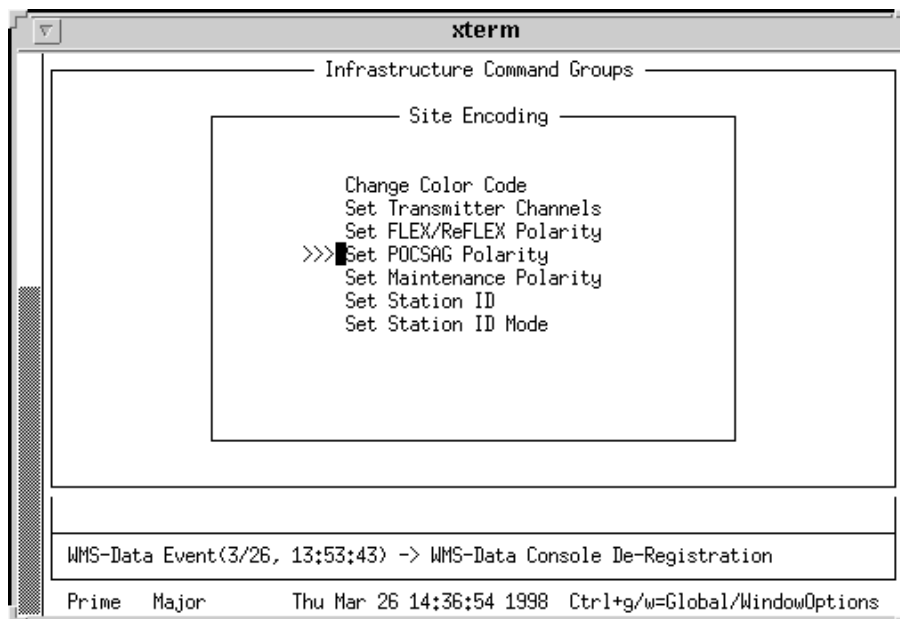

Figure 7-10: Infrastructure Command Groups—Set POCSAG Polarity
1. From the Site Encoding screen, use the <tab> to position the cursor to the left of the listing Set POCSAG Polarity and press: <Return> (see Figure 7-10).